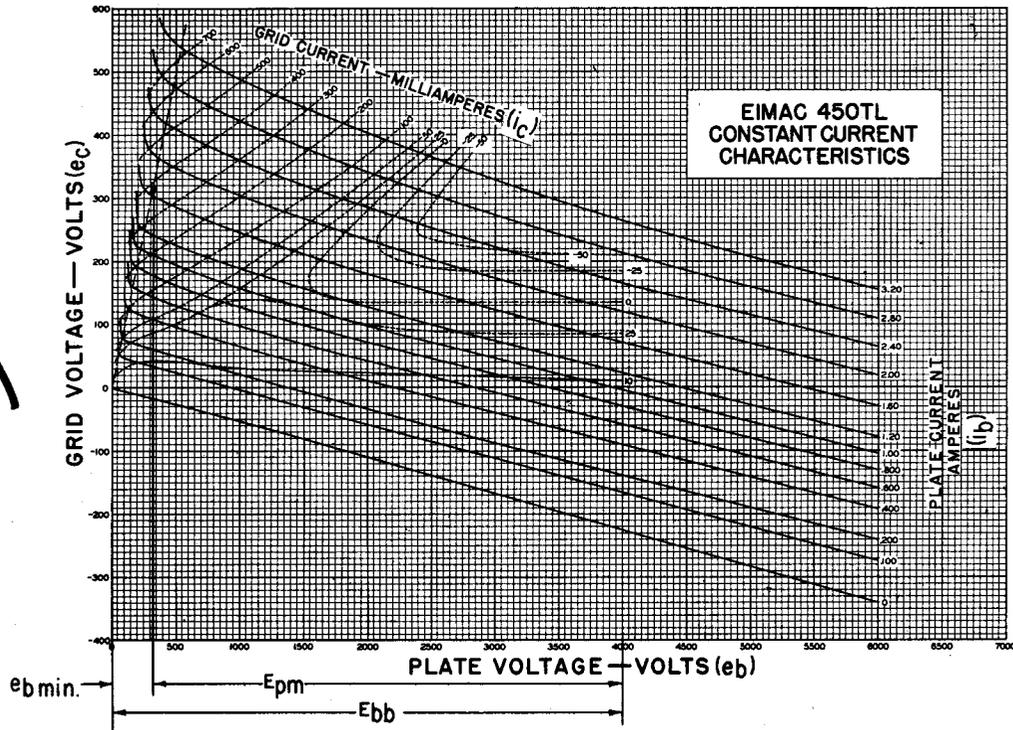

Figure 2. 450TL constant-current characteristics showing method of determining e_{bmin} and E_{pm} in steps 6 and 7 from value of i_b obtained in step 5.
6. $e_{bmin} = 315$ volts (see figure 2)